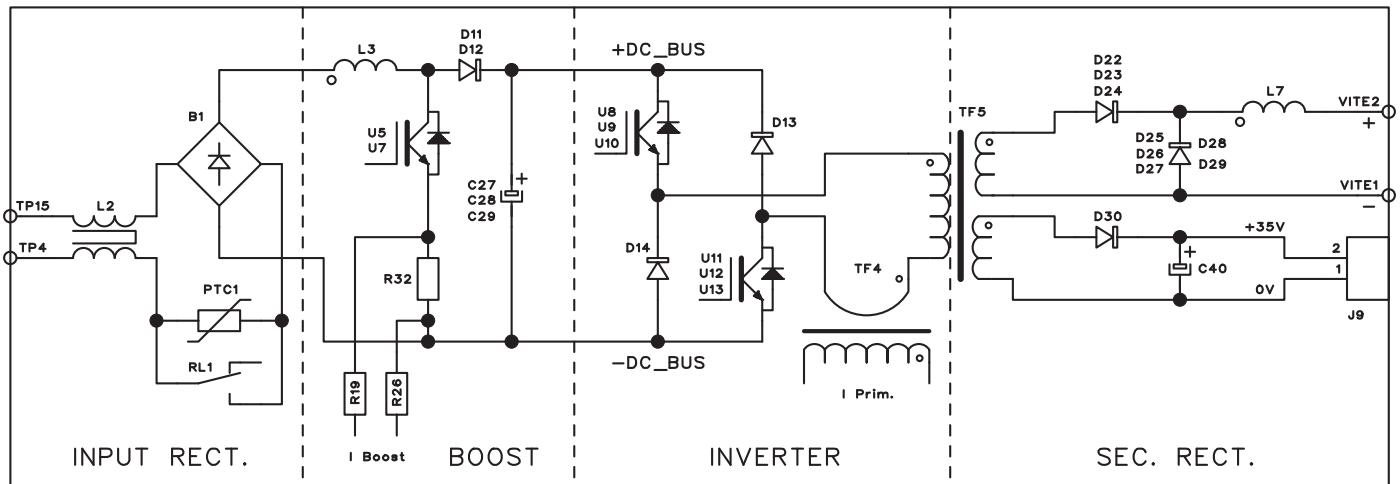

Fig. 2.3.1
More precisely in the power board (34) they can be identified (Fig. 2.3.1):
- the igt inverter, that generates the square wave alternated voltage for the TF5 power transformer, installed on the power board (34);
##### POWER SUPPLY TEST (Fig. 2.3.1, 2.3.2).